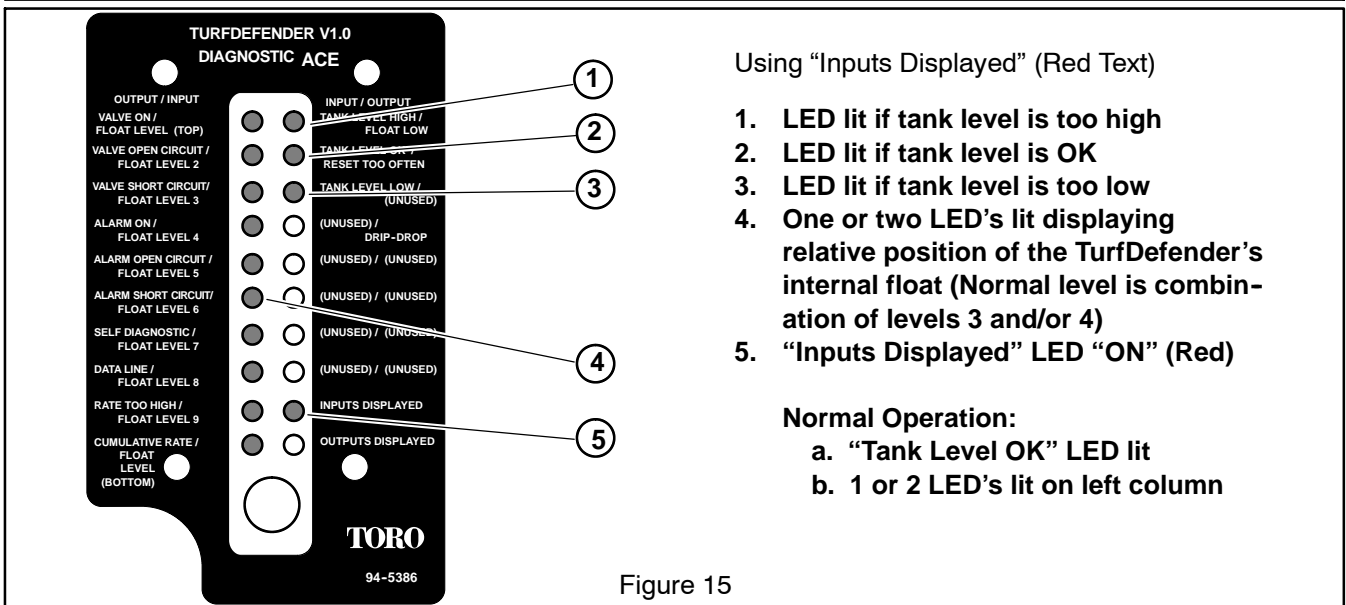

Figure 15
1. When the “Inputs Displayed” LED is lit (Fig. 15):
1. When toggling “inputs”, a LED should display any of the following problems diagnosed by the TurfDefender™ (Fig. 15):